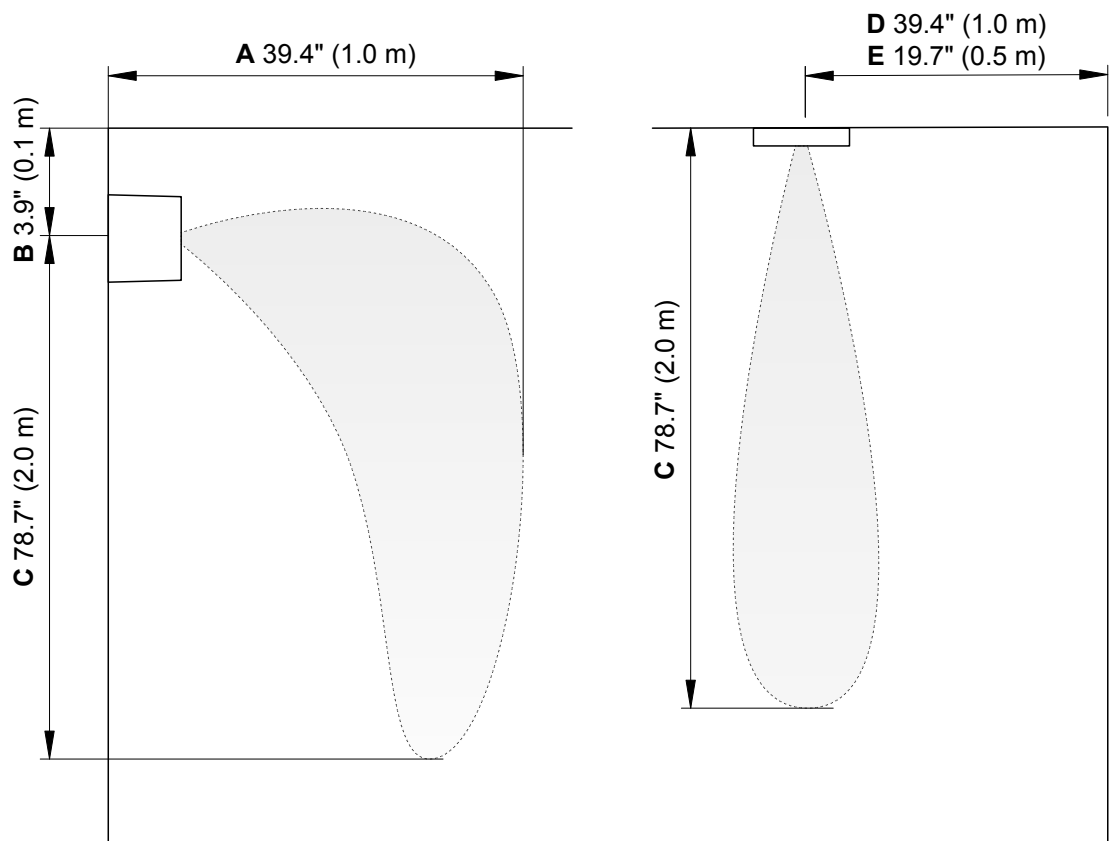

Fig. 13: Required minimum distances in the positioning of spray heads
- The spray heads must be positioned so that the mist can spread freely in the room and is not facing obstacles, such as pillars, furniture, cold outer walls, window surfaces, etc. where the humid air could condense. The required minimum distances are stated below and can be viewed in the Fig. 13.